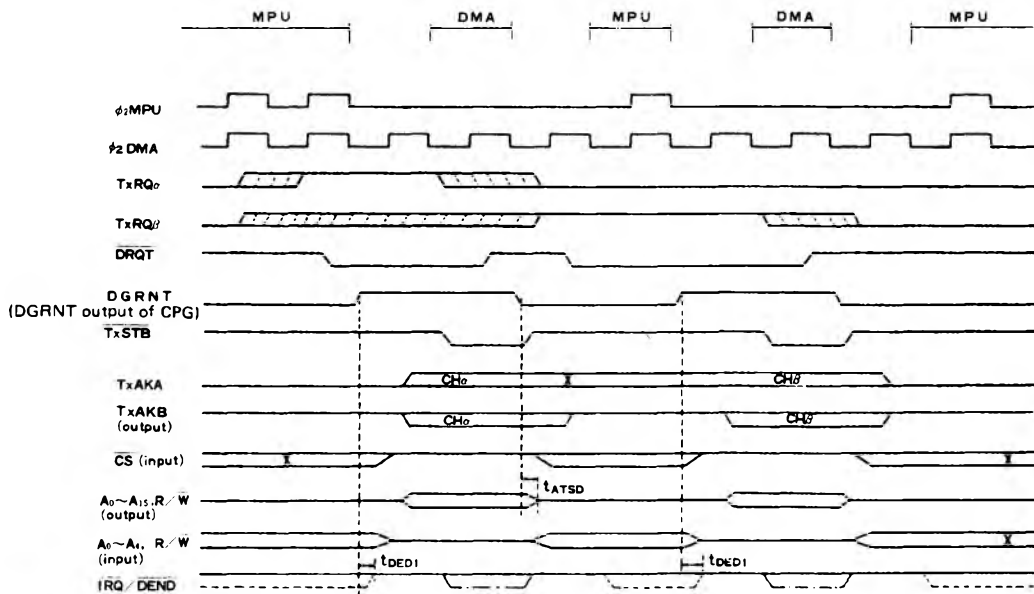
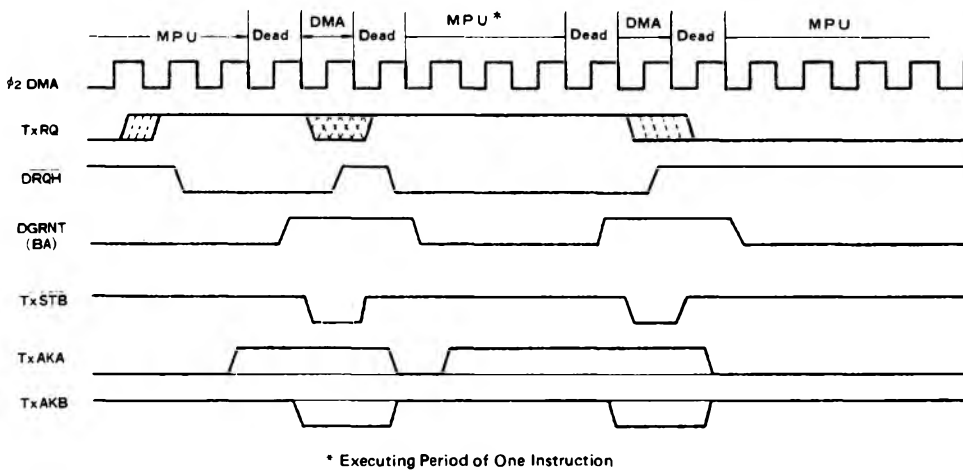

Figure 24 Channel Change (TSC Mode → TSC Mode)
Figure 26 Successive 2-byte Transfer of One Channel (HALT Cycle Steal Mode)
- (2) From TSC mode to TSC mode (Fig. 24)
- (4) From TSC mode to HALT mode (Fig. 26)
The timing in the case where the next byte is transferred without changing the channel is shown in Fig. 26. This is the case of HALT → HALT mode. In this case, the bus control returns to MPU, before the next byte is transferred. In the case of TSC → TSC mode, its timing is almost the same as than in Fig. 24, that is, after 1-byte transfer has completed, MPU executes the Instruction Cycle for one clock and then DMAC executes 1-byte transfer again.